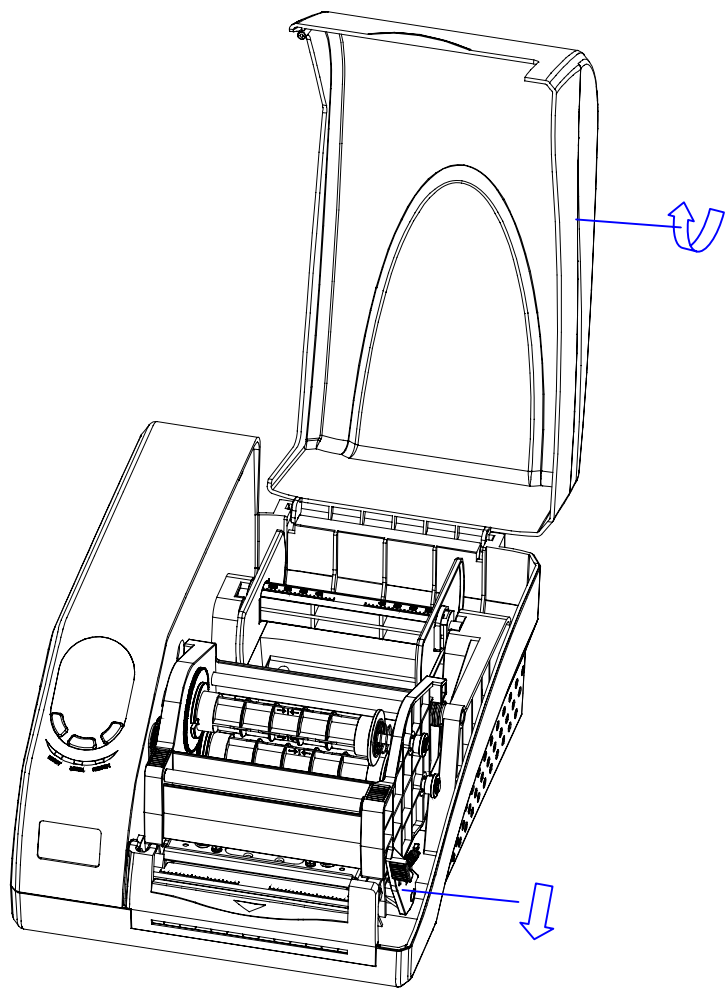

Figure 5-1
1. Lift the top cover (Figure 5-1).